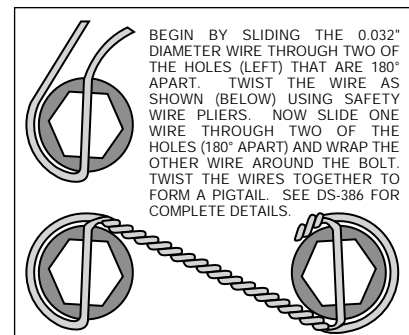

Figure 3. Safety Wire Diagram
•The rotor (3) has two sides. A flat side and an inset side. Bolt hat (2) to flat side of rotor (3) using lock washers (4) and bolts (5). Torque bolts (5) to 180 **in-lb**. Safety wire bolts (5) using standard 0.032 inch diameter stainless steel safety wire as shown in Figure 3. Please refer to Wilwood's data sheet DS-386 (available at www.wilwood.com/pdf/ds386.pdf) for complete safety wire installation instructions.
•Align the correct hole pattern in the hat (2) with the stud pattern on the axle flange. **NOTE:** Some OEM and after market axles come with stud sizes larger than 0.50" diameter. Verify stud size and have a qualified machine shop drill the hats to the correct size. Slide the hat/rotor assembly (2 and 3) over the wheel studs and against the axle flange face.